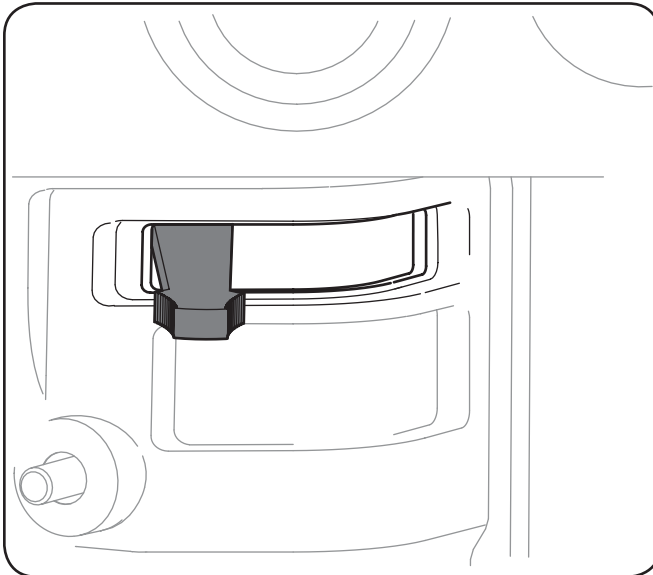

Figure 5-3
5. Set the choke control to "FULL CHOKE" position. See Figure 5-3.